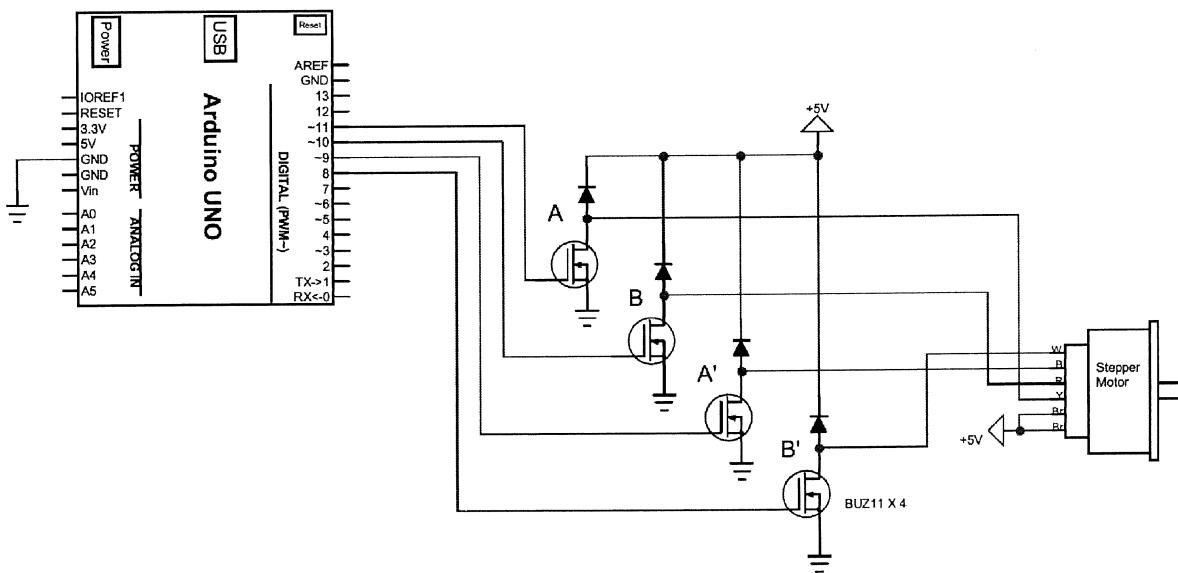

Figure 3: Interfacing a stepper motor with Arduino UNO using 4 transistors.
- If a stepper driver is not available, we may interface the stepper motor with the MCU using 4 BUZ11 transistors as shown in Figure 3. Describe the sequence of turning the transistors ON and OFF to drive the stepper motor in both directions with using Two Phase Half Step mode. You may present your answer in a table format. (13 marks)